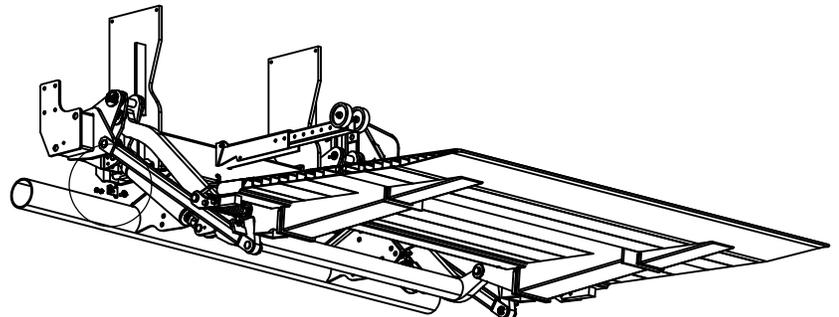

Figure 30: Linkage Locker location.
4. **Remove** both linkage locker located between the cylinder and the trunnion tube, one on each cylinder, by unbolting the 2x 3/8" bolts, you can discard these bolts at this moment. Your gate now is able to perform the tilt function (Figure 30).